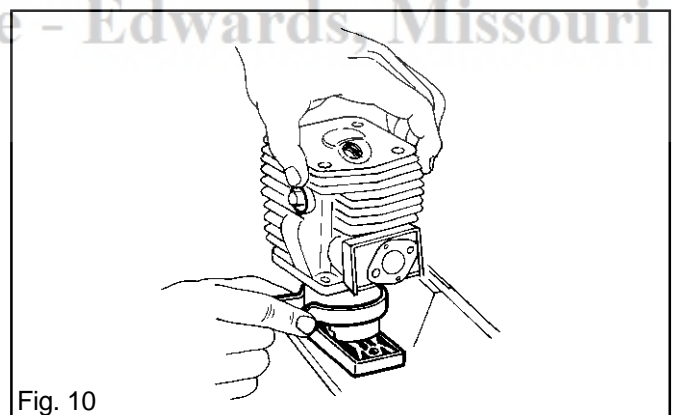

Fig. 10
7. Compress the piston ring, either by hand or with tool 502 50 70-01. See fig.10. Carefully fit on the cylinder